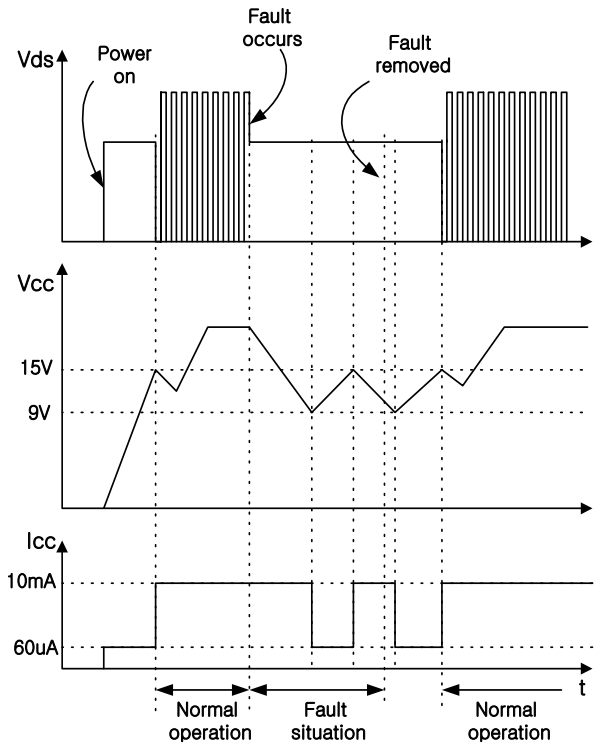

Figure 3. Auto restart operation after protection
**3. Protection Circuit** : Besides pulse-by-pulse current limit, the FS6X1220R has 3 self protection functions; over load protection (OLP), over voltage protection (OVP) and thermal shutdown (TSD). Because these protection circuits are fully integrated into the IC without external components, the reliability can be improved. In the event of these fault conditions, FS6X1220R enters into auto-restart operation. Once the fault condition occurs, switching operation is terminated and MOSFET remains off, which causes Vcc to be reduced. When Vcc reaches 9V, the protection is reset and the supply current reduces to 60uA. Then, Vcc begin to increase with the current provided through the start-up resistor. When Vcc reaches 15V, FS6X1220R resumes its normal operation if the fault condition is removed. In this manner, the auto-restart alternately enables and disables the switching of the power MOSFET until the fault condition is eliminated as illustrated in figure 3.